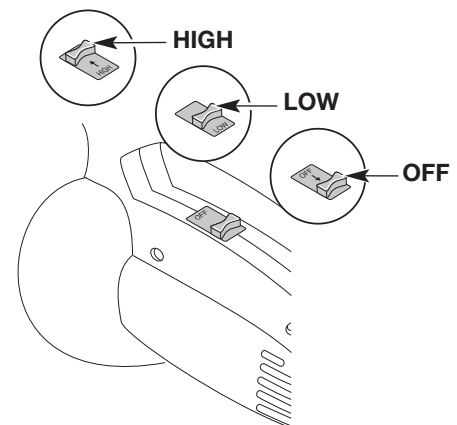

Fig. 11
This unit is equipped with a three-way (OFF/ LOW/ HIGH) switch (Fig. 11):
Once the unit is plugged in, stand in the operating position (Fig. 12). Slide the power/speed switch to LOW or HIGH to start the unit. To stop the unit, slide the switch to OFF (Fig. 11).
1. Slide the Power/Speed switch down in the **OFF** position until the unit comes to a complete stop (Fig. 11).